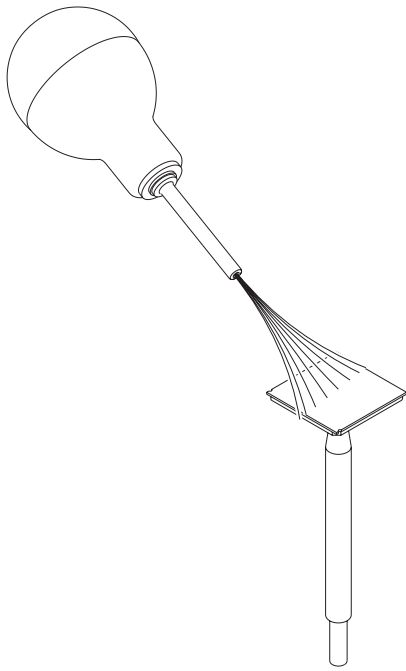

Figure 6. Removing debris from the system processor modules
- b. Inspect the bottom of the processor module for any visible damage or debris. If debris is present, you can use the air pump to remove it. See Figure 6 on page 8.